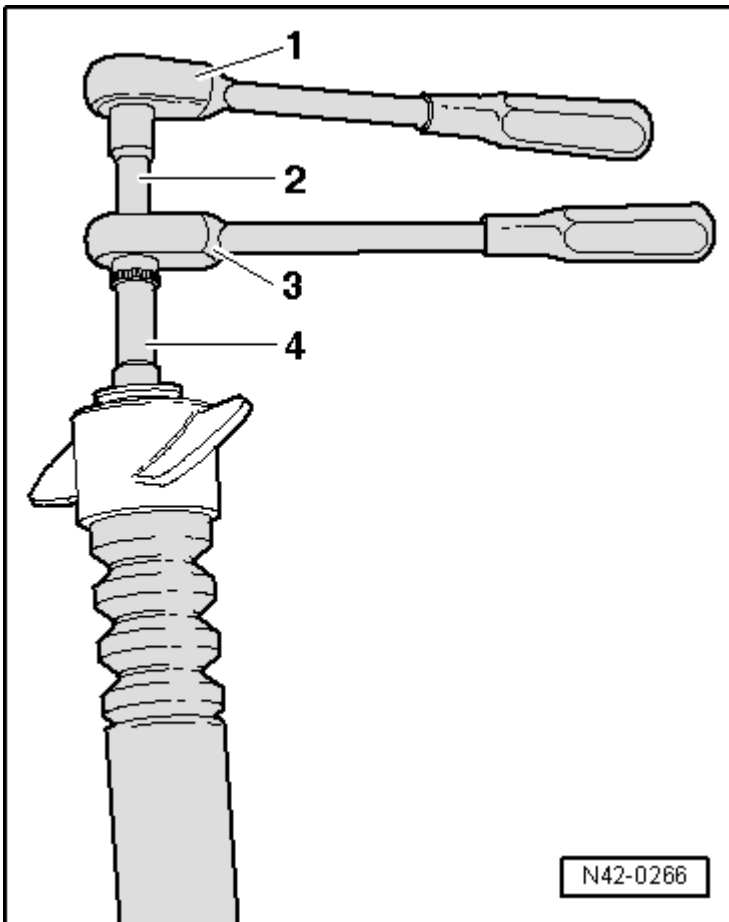

Fig. 289: Identifying Removal Of Hex Nut From Shock Absorber
- Loosening and tightening, refer to **Fig. 289**